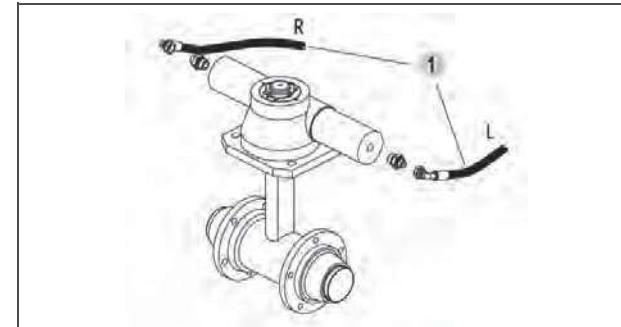

Figure 5-4 Rear Steering Axle Hoses
6. Remove the hoses (1, Figure 5-4) from steering axle.
3. Install the hoses (1, Figure 5-4) on the steering axle.